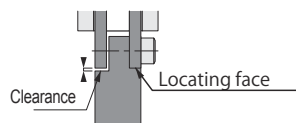

Fig. 8
- The finger locating faces are shown in Fig. 8. Clearance is necessary so that the attachment does not touch another finger on the opposite side. After the attachment installation, operate the gripper manually to make sure its smooth motion.